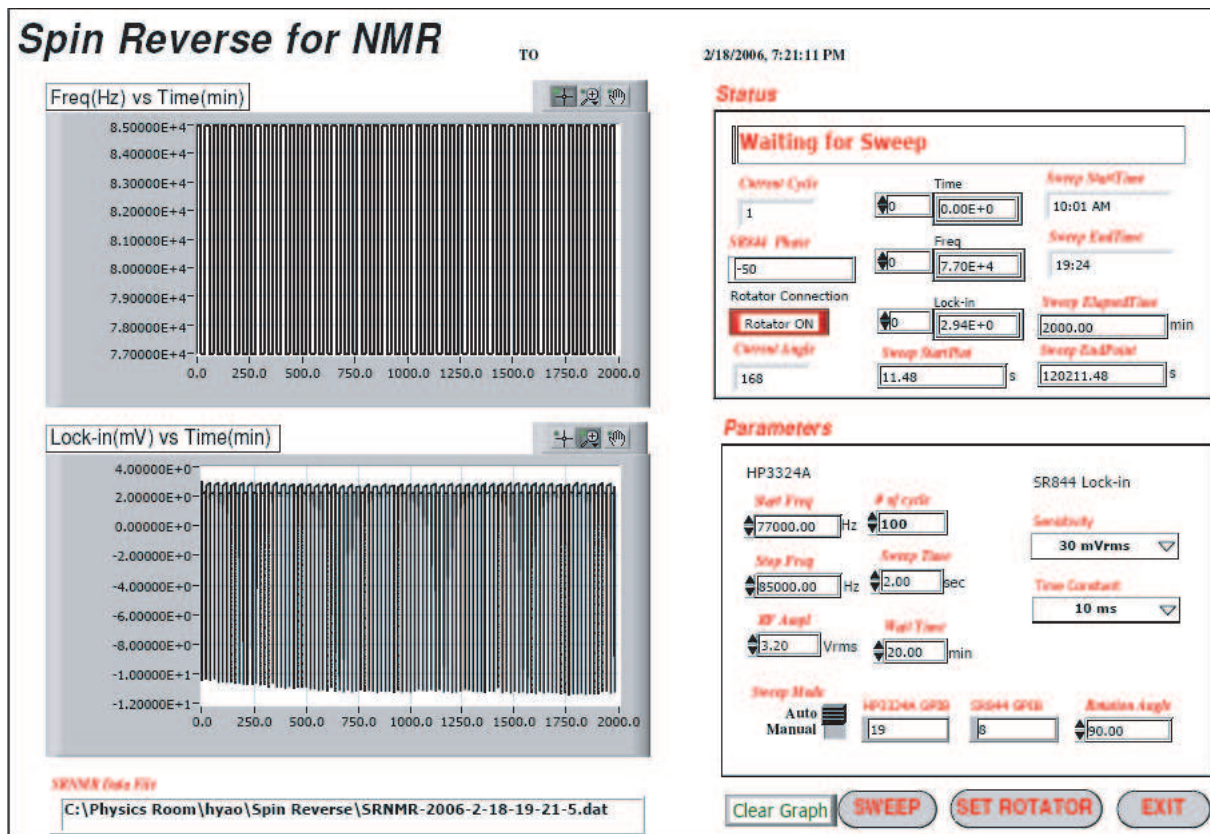

Figure 2: Spin-Reversal Program
4. Click on “Spin Reversal_Perfect.vi” and run it. You will see the panel like Figure 2